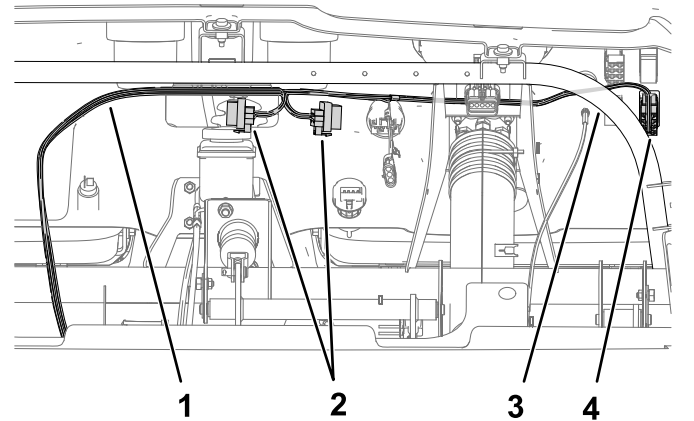

Figure 16
- Continue to route the remaining end of the kit wire harness along the existing wire harness into the dash and along the support tube (Figure 16). Attach the wire harness and relays to the support tube as necessary using cable ties.